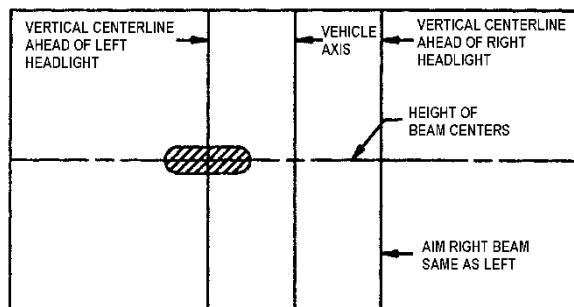

FIGURE 82: UPPER BEAM HIGH-INTENSITY ZONE PROPER LOCATION ON SCREEN
4. High beam headlamps are aimed so that the center of the high-intensity zone is located at the horizontal and straight ahead vertically (Figure 82).